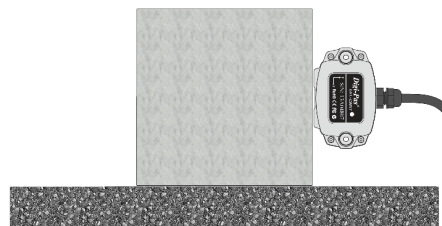
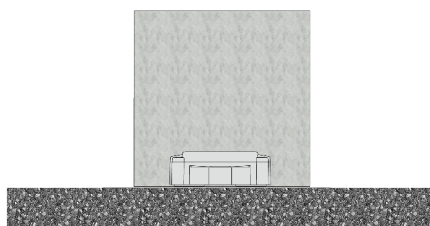

Figure 37. Compact Sensor Module Position of Calibration Step 3
Figure 42. Compact Sensor Module Position of Calibration Step 8
10. For **DWL4200XY** model, repeat step 3 to step 8. Please locate the sensor module in following positions (refer to Figure 37 to Figure 42) respectively.